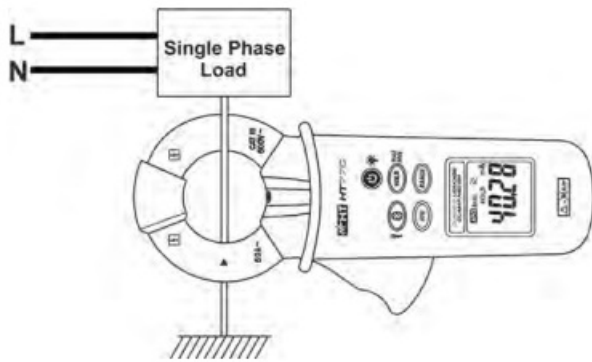
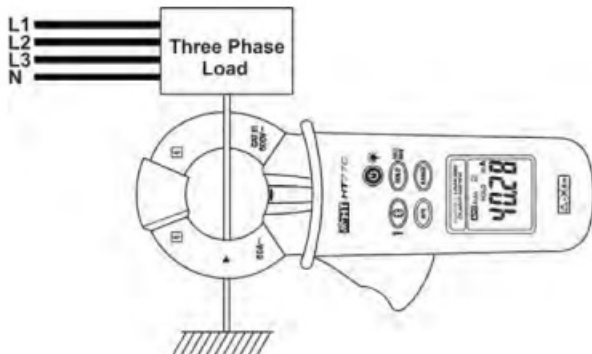

Fig. 4: Measuring leakage current with direct method in a single phase load
Fig. 6: Measuring leakage current with direct method in a three phase load
2. Open the clamp jaw and connect the clamp as shown in Fig. 4 or Fig. 6. The leakage of the current value will be shown on the display